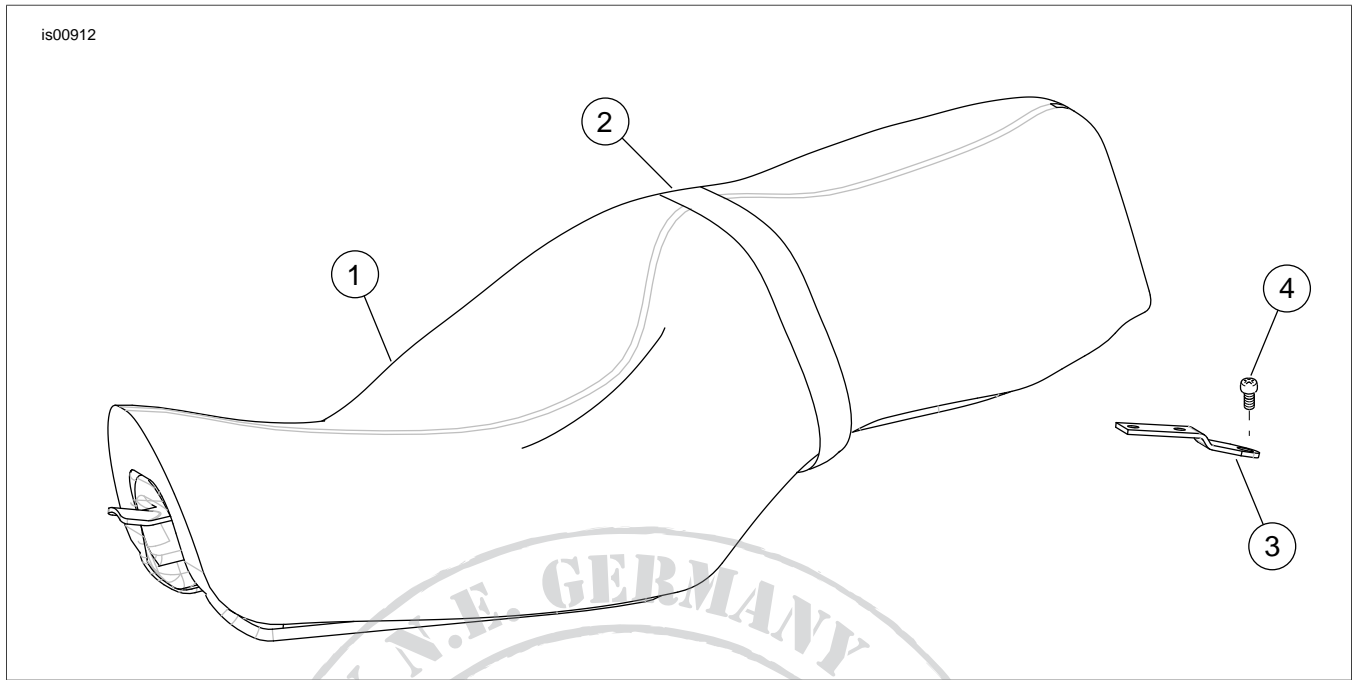

Figure 3. Service Parts: XL Seat
See Figure 3 and Table 1.
- a. Angle the front of the new seat into place so the tongue (1) engages the slot at the rear fuel tank mounting location.
- b. Push the seat forward and rotate the rear of the seat downward until the seat contacts the frame. Flex the seat slightly in the middle and slide the seat towards the rear so that the keyhole slot (2) on the seat bottom engages with the center seat post on the frame.
3. See Figure 3. Pull up on the center of the seat to verify that it is locked in place. (There will be a small amount of play, but the seat should only come up about a half an inch and then will be held firmly in place by the post on the underside of the seat.) If the seat is not firmly in place, repeat Step 2 until the seat is firmly in place. Reference the Owners Manual for further instruction on seat placement if needed.
4. Install the seat mounting (4) screw, and fasten the seat mounting bracket (3) to the top of the rear fender.